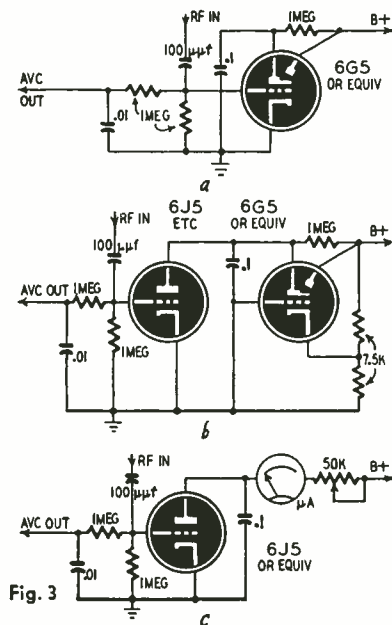

Fig. 3
In each of these circuits, we can substitute the control grid of the tube for the plate of the a.v.c. rectifier. The resulting circuits are shown in Fig. 3. The triode grids still get the required
a.v.c. voltage but they rectify it themselves. There is still a.f. voltage on the grids. This is usually eliminated by the a.v.c. filter network in the more conventional circuits. In the electron-ray tuning circuits, the audio signal may cause a fuzzy pattern. In this case, a 0.1- μ f capacitor from the triode plate to ground will smooth it out. In the S-meter circuit (Fig. 3-c) the inertia of the pointer may give sufficient filtering. If the pointer vibrates with modulation, a 1.0- μ f capacitor between the plate and ground will stop it.—John Sareda.